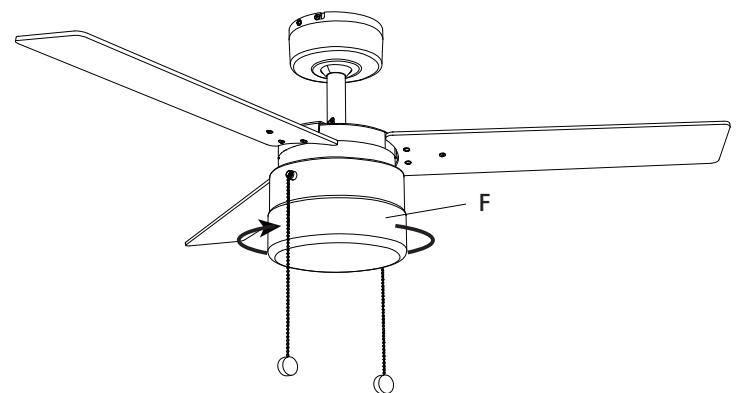

Figure 14
- Install the lamp shade (F) into the lamp-fitter by gently twisting clockwise until it locks (Figure 14).